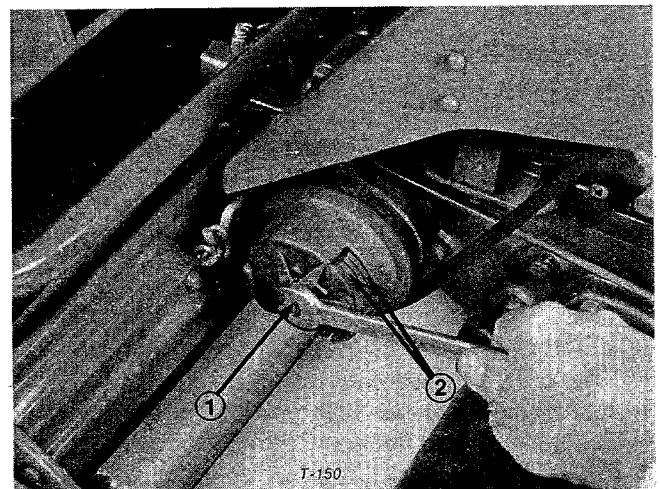

Figure 44
2. Tighten clutch locknut in small increments, start engine and test adjustment (Fig. 44).
Note: Clutch plates and friction discs should be totally free of grease or oil (Fig. 44).